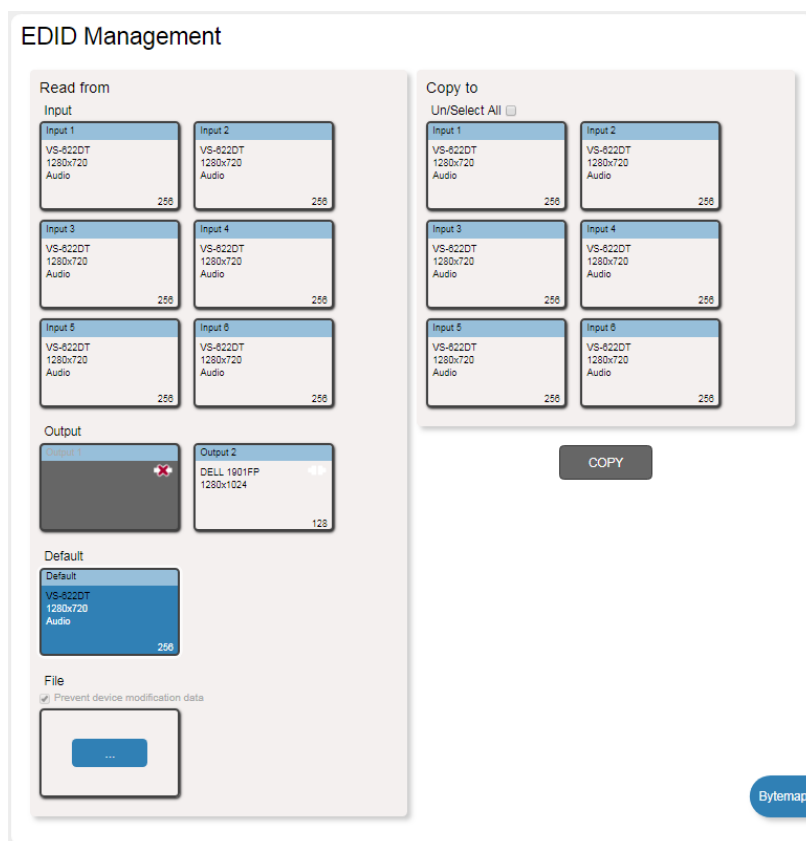

Figure 19: EDID Management Page
- 1. In the Navigation pane, click **EDID Management**. The EDID Management page appears (see Figure 19).
1. In the Navigation pane, click **EDID**. The EDID Management page appears (see Figure 19).